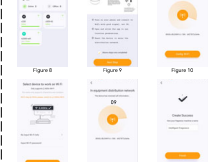

Figure 14
- Open the interface of [4G / WIFI], long press device name to pop up [Rename] [Show] [Unbind Device] Click [Unbind Device] to complete the device removal operation (as Figure 14 / 15).